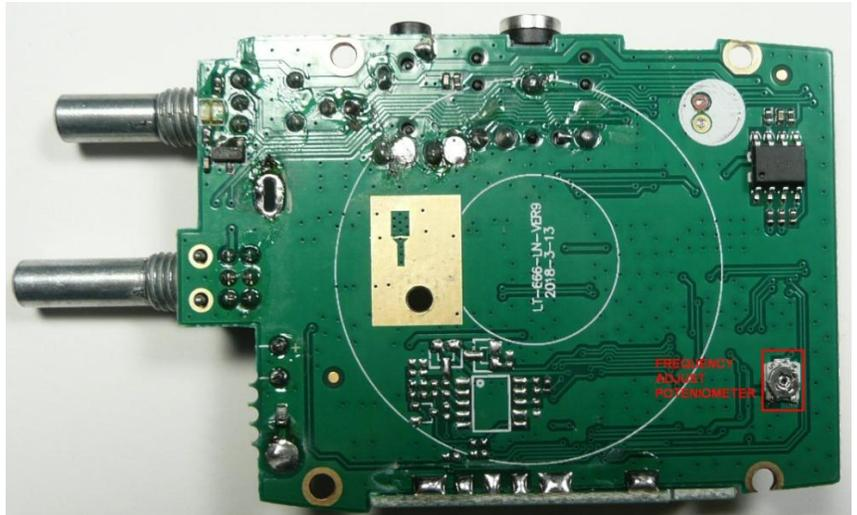

Figure 1 - VER9 BF888S Board Bottom View
This document is an addendum to the BRIAN (SM) Construction Manual. Its purpose is to document suggested changes to the construction of a BRIAN(SM) Allstar Node using a later version of the Baofeng BF888S PC board as shown in Figures 1 and 2.
Figure 1 shows the bottom view of the new PC board. It is labeled LT-666-LN-VER9 with a date of 2018-3-13. Comparing it to the board shown in the BRIAN Construction Manual reveals that it still has the same overall mechanical shape and configuration. However, the board wiring layout has been redone but (good news) the location of the pads we use to attach the jumper wires to connect to the BRIAN (SM) motherboard have not changed.